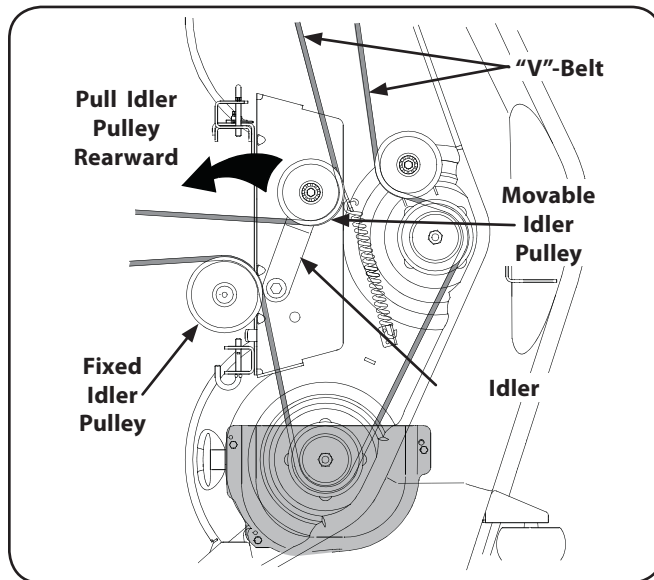

Figure 7-3 (42" deck shown)
A fuse is installed to protect the tractor's electrical system from damage caused by excessive amperage. Always use the same capacity fuse for replacement. If the electrical system does not function, check for a blown fuse. See Figure 7-3.
- Working from the middle of the tractor, pivot the idler bracket and movable idler pulley rearward away from the backside of the 'V' belt just far enough to lift the belt up and over the idler pulley. See Figure 7-3.
3. Route the backside of the belt around the fixed idler pulley of the deck. Refer to Figure 7-3.
4. Working from the middle of the tractor, pivot the idler bracket/movable pulley rearward against the spring tension and slide the backside of the belt onto the movable idler pulley. Refer to Figure 7-3.
2. Make certain the belt is in the spindle pulleys of the deck, and that the backside of the belt is against both the fixed and movable idler pulleys. Refer to Figure 7-3.